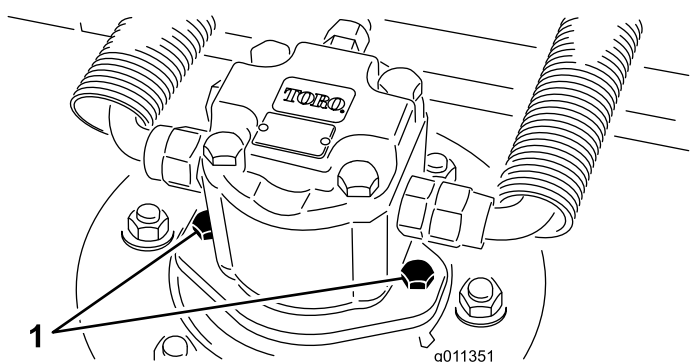

Figure 80
2. Disconnect and remove the hydraulic motor from the deck (Figure 80). Cover the top of the spindle to prevent contamination.
4. Install the hydraulic motor to the deck (Figure 80). Make sure that the O-ring is in position and not damaged.